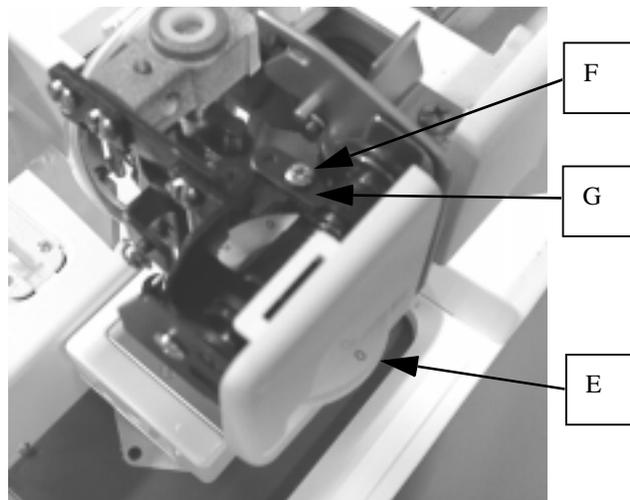

FIGURE 12-4
- II. Set stitch balancing thread tension dial (E) to [0] as shown in Fig.12-4. Operate the machine, and make sure that the solenoid functions to produce a gap between the thread tension release plate (1)(G) and the disk presser, and the stitch balancing thread tension is applied. If the stitch balancing thread tension is not applied, loosen setscrew (F), relocate thread tension release plate (1)(G) rightward, and fix setscrew (F).
- III. Make sure that condition (I) and (II) are satisfied.
- I. Tighten screws (H) and (I) so that the gap between the left side of holding plate 1(K) and the center of magnet (L) will be 1.0 - 2.0mm. (Front-back adjustment).